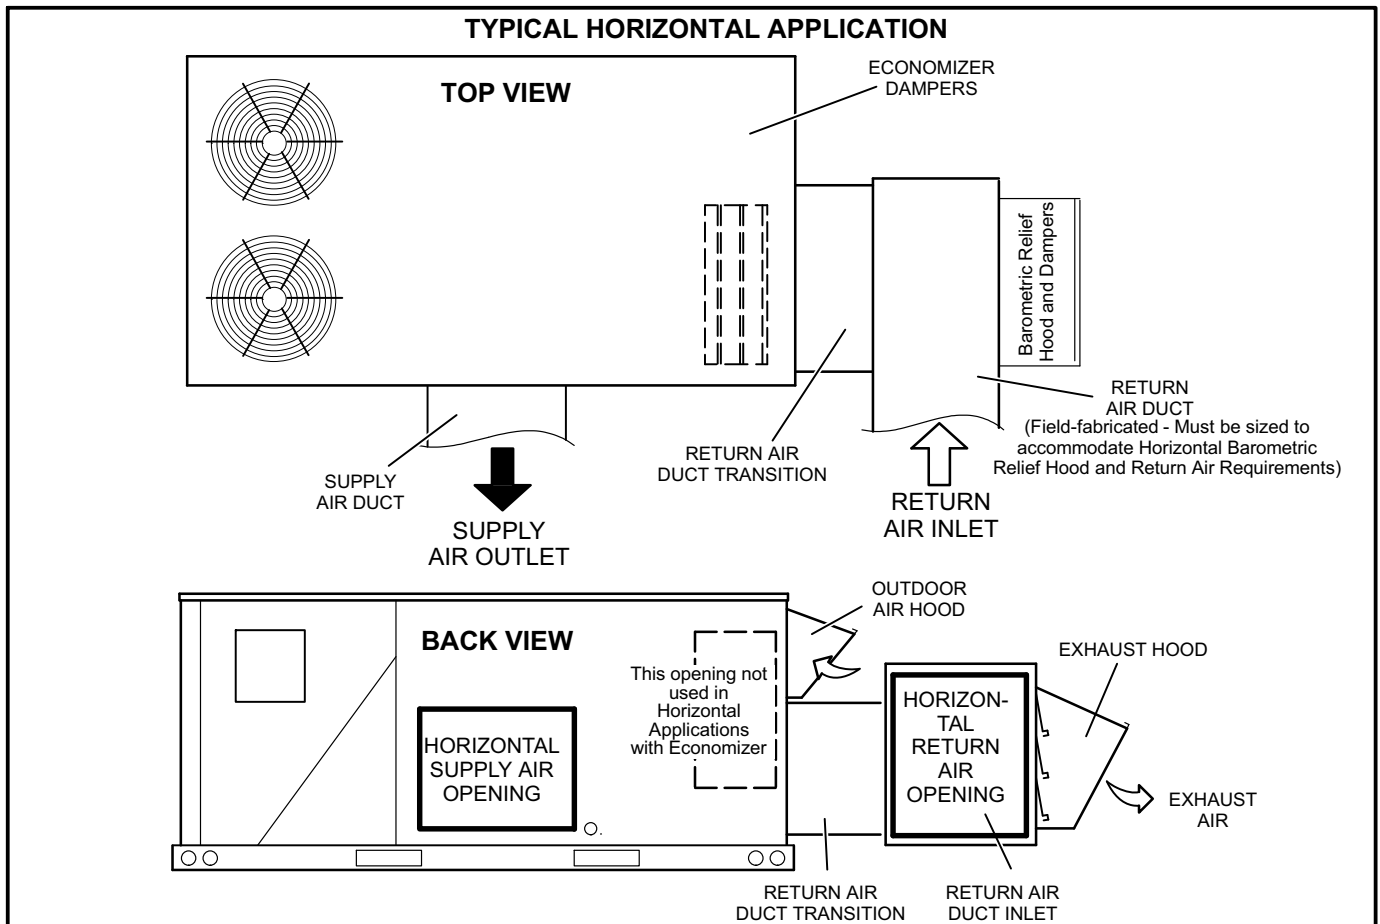

FIGURE 27
- 5- Install the field-fabricated return air duct transition and duct inlet on the unit end. See figure 27. Support the transition and duct inlet as needed.